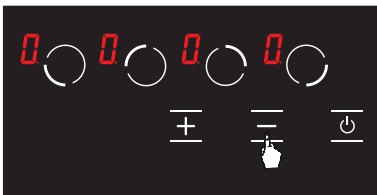

Figure 22
3. Press the **-** key again. (see Fig. 22) This shall be performed right after the 2nd step. Child lock is deactivated permanently. In other words, child lock shall continue to be deactivated even if the unit is turned off and on again.